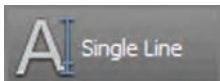

**FIGURE 10.3** Specifying the ends of a fit baseline
6. Click points A and B in Figure 10.3. A blinking cursor appears.